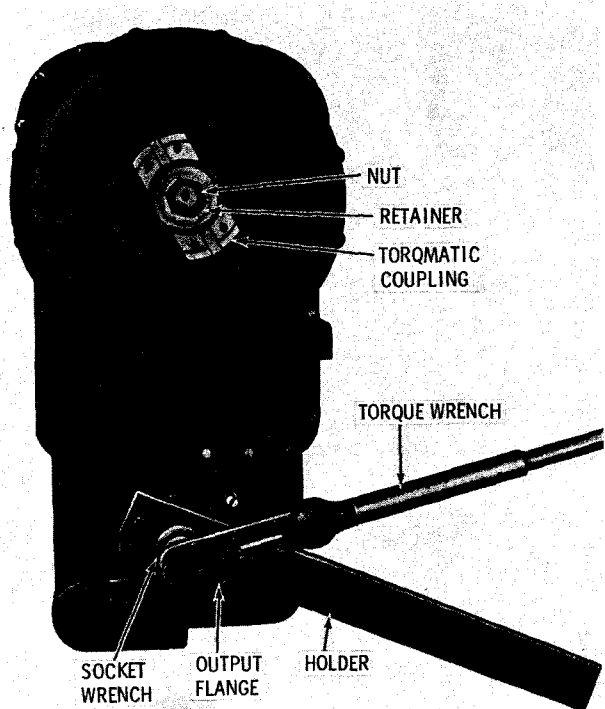

Fig. 7-39. Tightening front output flange nut
(4) Refer to paragraph 4-7 and install the front input flange (or Torqmatic coupling) onto the input shaft (fig. 7-39).
(5) Coat the shaft threads lightly with molybdenum disulfide grease (such as Molykote Type G, or equivalent). Install the retaining washer and nut to retain the flange or Torqmatic coupling (fig. 7-39). Using a 2-3/4-inch thin-wall socket and torque wrench, tighten the nut to 450-700 lb ft (610-949 N·m) while holding the flange (or coupling) against rotation with holding tool J-3453.
cavity between the shaft and the flange. Install flange retaining washer 2. Apply a light coat of molybdenum disulfide grease (such as Molykote Type G, or equivalent) onto the shaft threads, and install flange retaining nut 1. Tighten the nut to 500-750 lb ft (678-1017 N·m) while holding the flange against rotation (fig. 7-39).